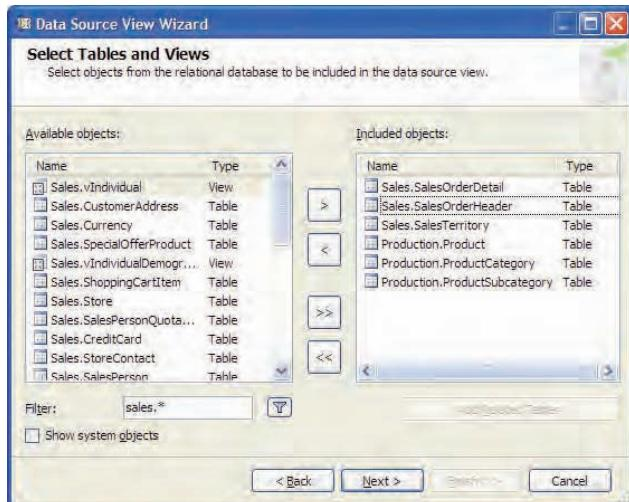

Figure 2.15 Use the Data Source View Wizard to generate a data source view quickly.
2. The only pre-selected choice in the Relational Data Sources list is the *Adventure Works* data source you created in section 2.3.2. Click Next to advance to the *Select Tables and Views* step (Figure 2.15).